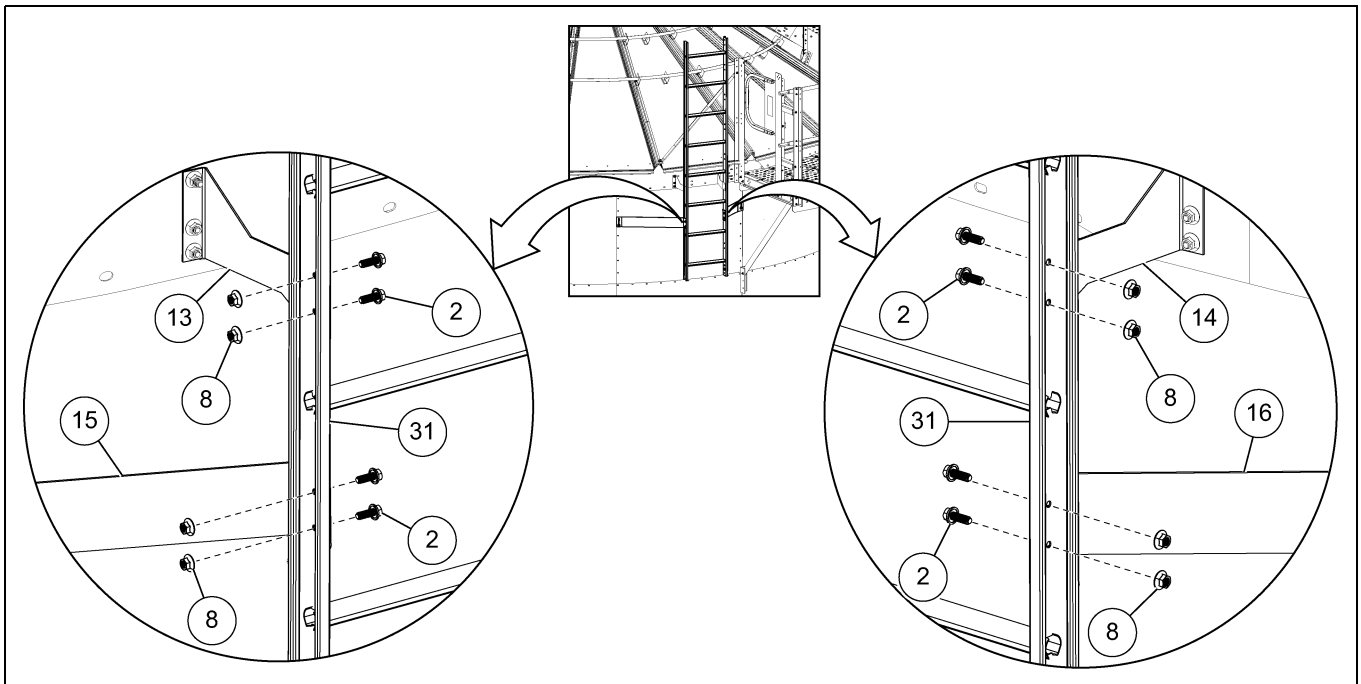

**Figure 7B** Installing the Ladder Brace Brackets
2. Install the slotted end of the left ladder brace bracket (15) and right ladder brace bracket (16) to the vertical channels using 5/16" x 1" flange bolts (2) and 5/16" flange nuts (8). (See Figure 7B.)